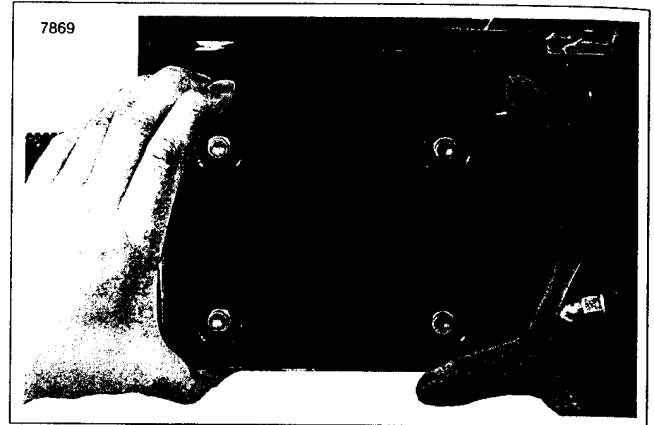

Figure 8-2. Removing/Installing Side Cover
3. See Figure 8-2. Firmly grasp both sides of cover and pull outward to remove.